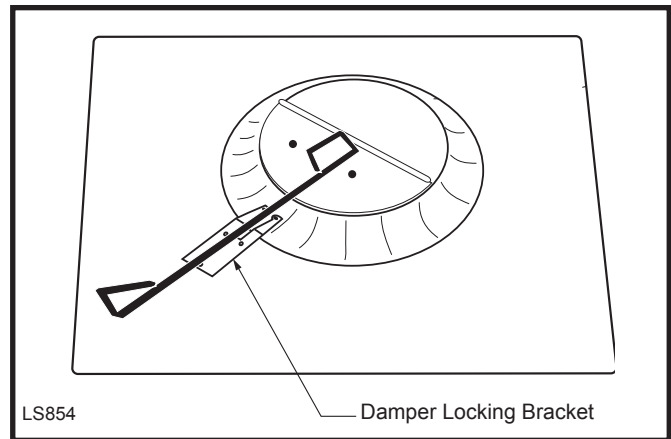

Fig. 5 Locate the damper locking bracket inside the fireplace dome.
2. From inside the fireplace, locate the damper locking bracket on the left side of the combustion dome. (Fig. 5)